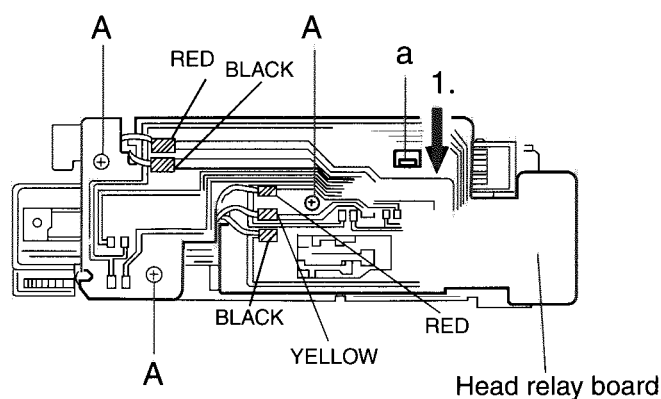

Fig. 1
- 1. Press the Eject button to open the front panel unit (See fig 1)
■ Removing the Head Relay Board (See Fig. 1)